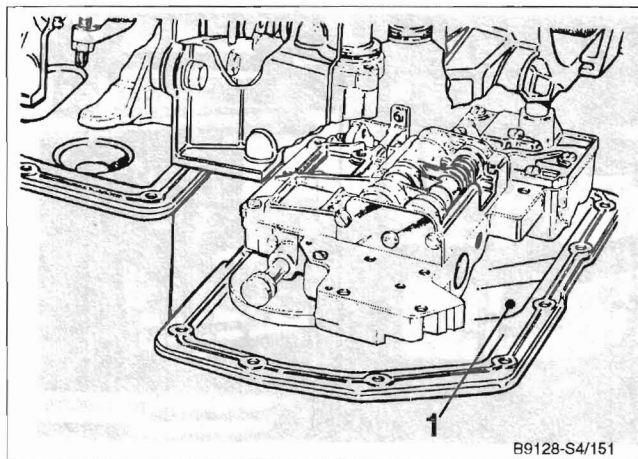

Fig. 23. Correct location of pan magnet (1) in front pan.
7. Clean the oil pan and install the pan magnet. See Fig. 23. Make sure the pan is completely dry. Remount the filter using a new O-ring and tighten the mounting bolts.